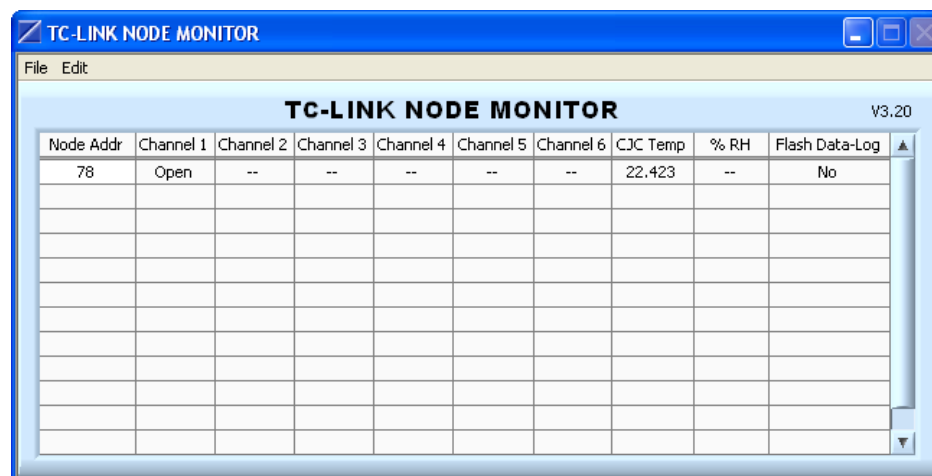

Figure 4
- After a few moments, the TC-Link® data will begin displaying on the grid and refreshing it every 2 seconds. **See Figure 4.**
- Move your mouse pointer over the Node Address in the grid (78 in our Figure 4 example).